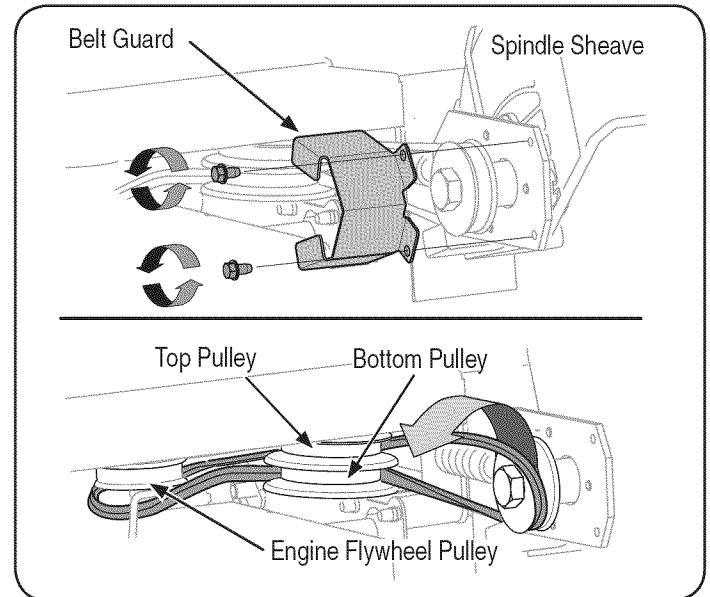

Figure 18
3. Remove the spindle sheaves belt guard by removing the two self-tapping screws which secure it to the blade plate assembly. See Figure 18.
4. Carefully remove the belt from off of the pulleys, again making sure to note the orientation of the belt. Discard the belt. See Figure 18.
NOTE: Make certain that the "V" side of the belt is seated into the top pulley and the flat side of the belt is seated into the bottom pulley. See Figure 18.